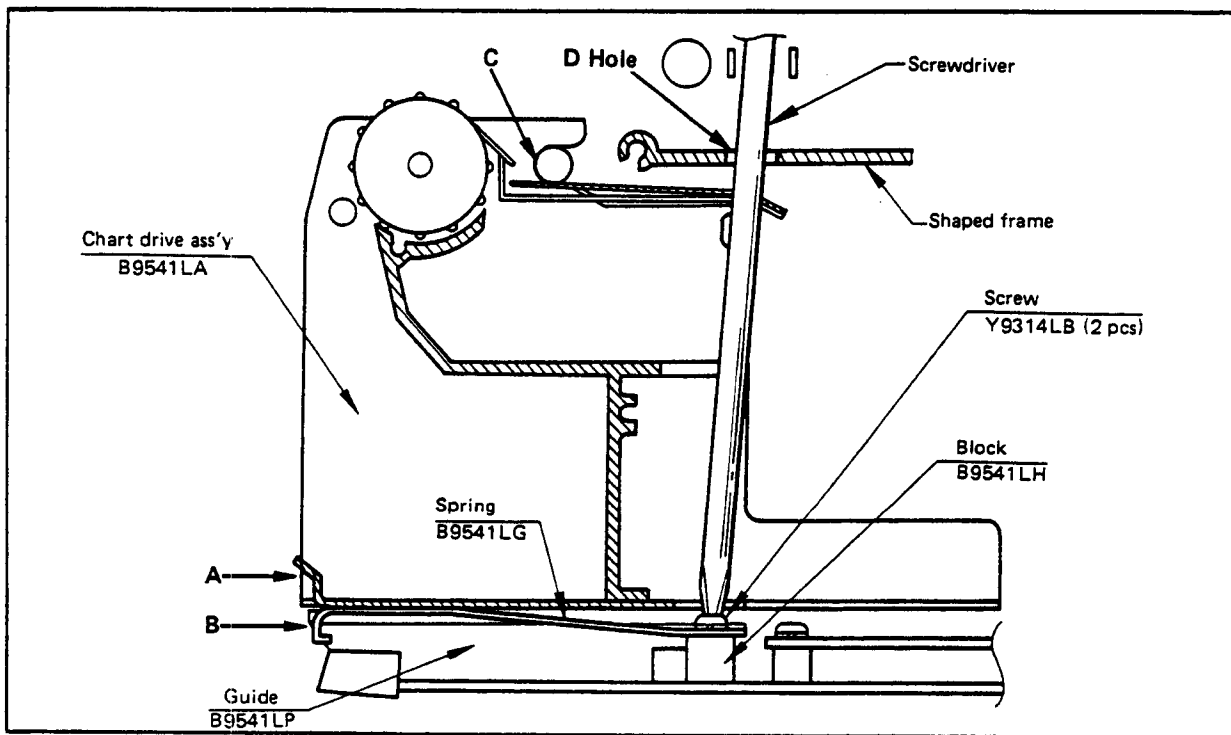

Figure 11-6.
- 1) Using two screws (Y9314LB), fix temporarily spring (B9541LG) and block (B9541LH) shown in Figure 11-6 to the bottom plate.